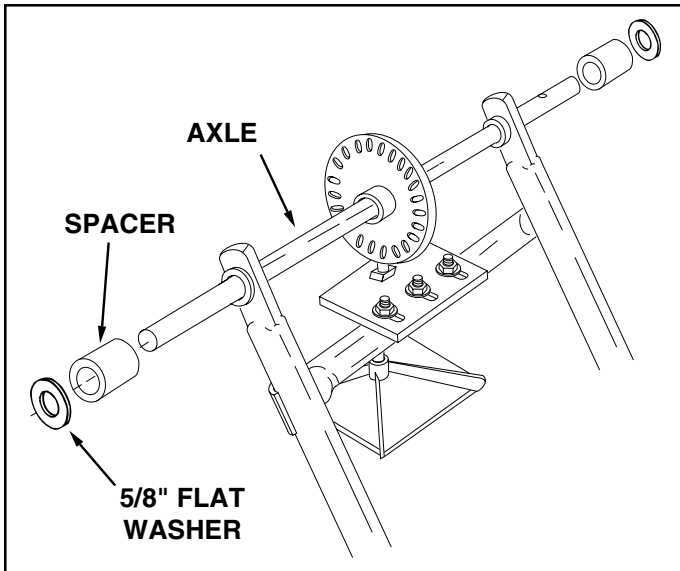

FIGURE 1
- 2. With the spreader resting upside down on the top of the hopper, assemble a spacer and then a 5/8" flat washer onto each end of the axle. See figure 1.